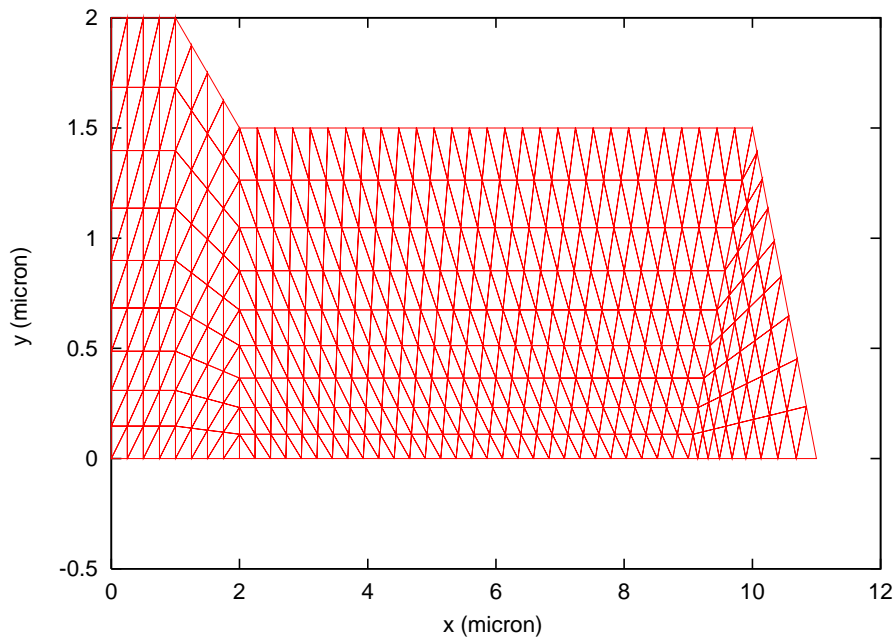

Figure 2: Finite element mesh used by PROCOM for a test structure of a horizontal reactor.
- 2) 2D mesh corresponding to the test structure is displayed in Figure 2.